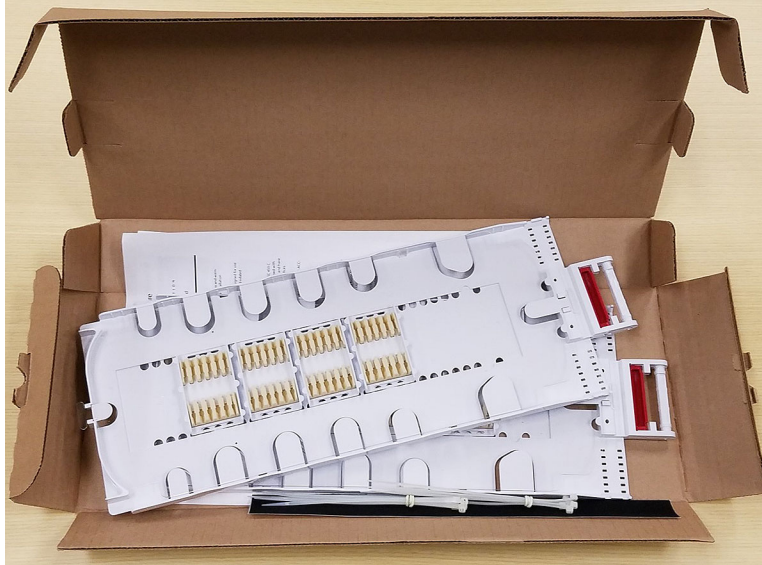

Figure 15. Unpacking the Splice Tray
1. Unpack the splice tray. Refer to Figure 15. There are two per box.